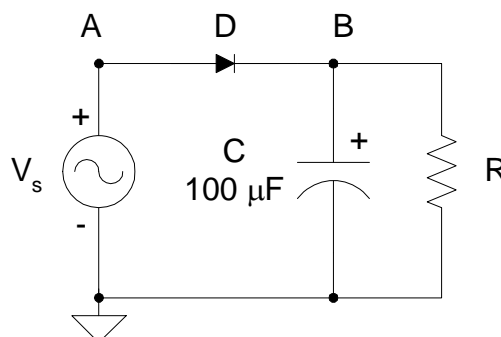

Figure 3 Half-cycle peak rectification circuit.
6. For a 100-Hz sinusoidal input voltage of 10-V peak amplitude, compute the diode conduction time and the ripple voltage for the half-cycle peak rectifier circuit in Fig. 3. Repeat these calculations for a triangle input voltage waveform.
3. The capacitor C in the half-cycle peak rectifier in Fig. 3 is an electrolytic capacitor and is polarized. That is, it must be connected to the circuit so that DC current is directed into the “+” terminal as indicated in the circuit. The “-” terminal of electrolytic capacitors is labeled on the package.
- (a) Construct the half-cycle peak rectification circuit shown in Fig. 3 with $R = 10\text{ k}\Omega$. Use a 1N4148 small signal silicon diode for D .